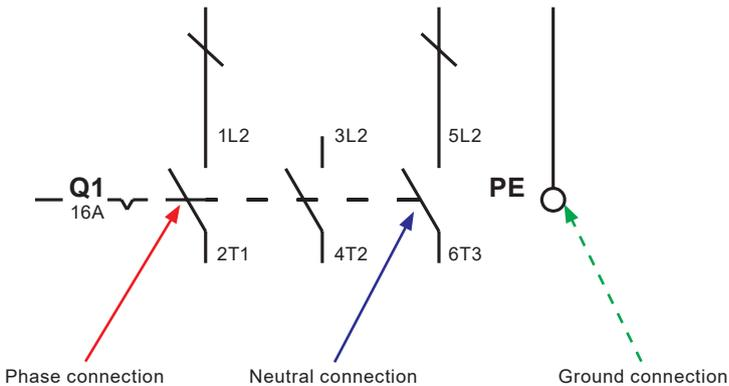

Fig. 4
Mains supply is directly connected to the primary side of the incoming control panel isolator and main ground terminal as shown in Figure 4.
- Check that all of the electrical connections are secure and as per the wiring diagram (Section 3.3, Figure 4).